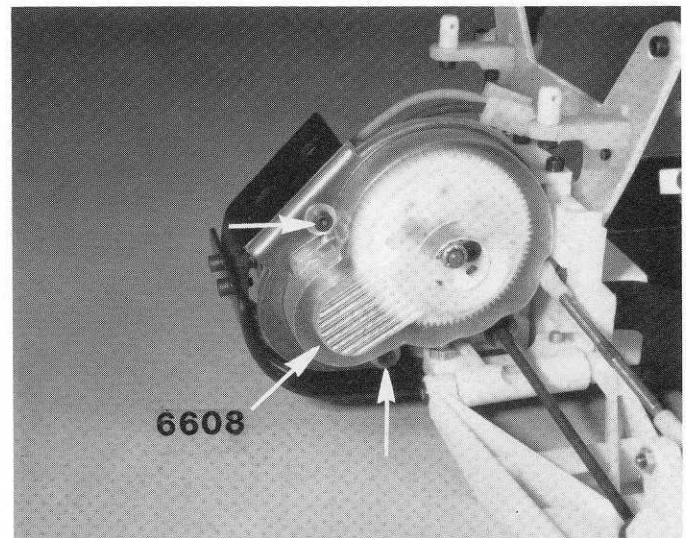

**Fig. 140**
□ **Figs. 140 & 141** Slip the motor in the motor mount and start the bottom screw in first. Do not tighten all the way down yet. On the top screw, put a washer on the screw and screw it in, but not tight. NOTE: Most motors are imported and use 3mm mounted screws, which are different from the rest of the fasteners in the kit. Make sure you do not mix them up.